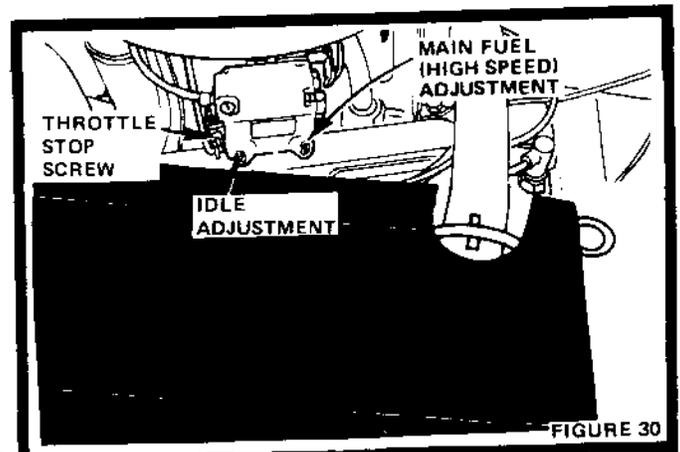

FIGURE 30
- Main Fuel (High Speed) Screw (Fig. 30) should not require adjustment. If resetting is necessary, turn clockwise, closing finger tight ONLY, then turn counterclockwise 1 - 1/4 turn.
- Turn Idle Adjusting Needle (Fig. 30) clockwise, closing finger tight ONLY, and then turn counterclockwise one turn.
- Throttle Stop Screw (Fig. 30) should not require adjustment. If resetting is necessary, set to obtain the slowest engine speed that will allow smooth acceleration.